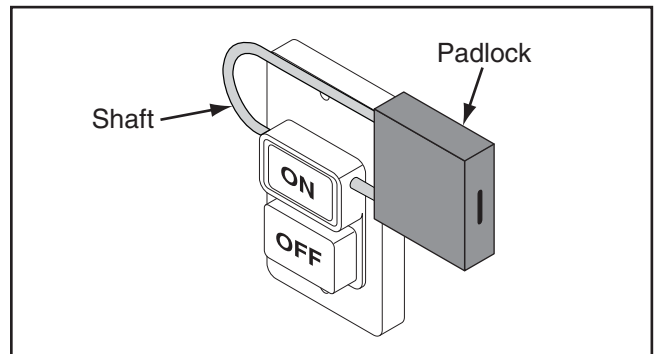

Figure 28. Switch disabling padlock inserted into ON button.
5. Insert the switch disabling padlock through the ON button, as shown in **Figure 28**.